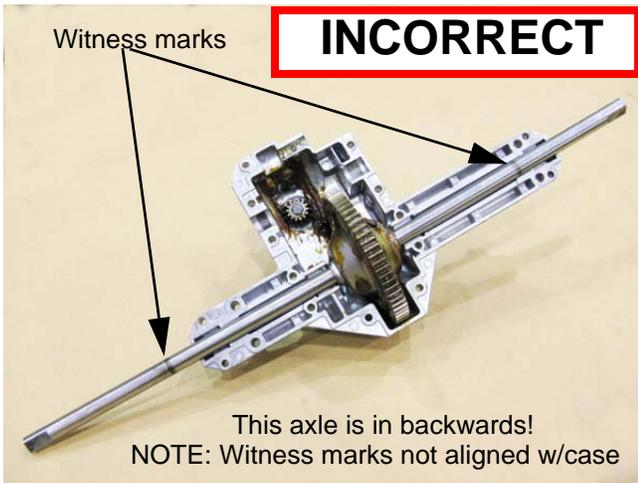

Figure 6.106
- 20a. Check notes, markings, or witness marks on the axle shafts to confirm the correct orientation. See Figure 6.106.